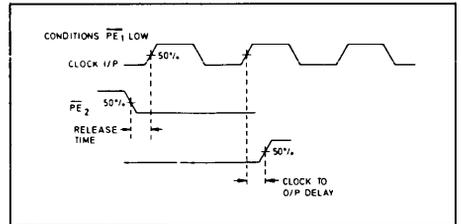

Fig. 4 Release timing diagram
- Release time is defined as the minimum time that can elapse between a H→L transition of a control input and the next L→H clock pulse transition to ensure that the  $\bar{\phi}7$  mode is forced by that clock pulse (see Fig. 4).